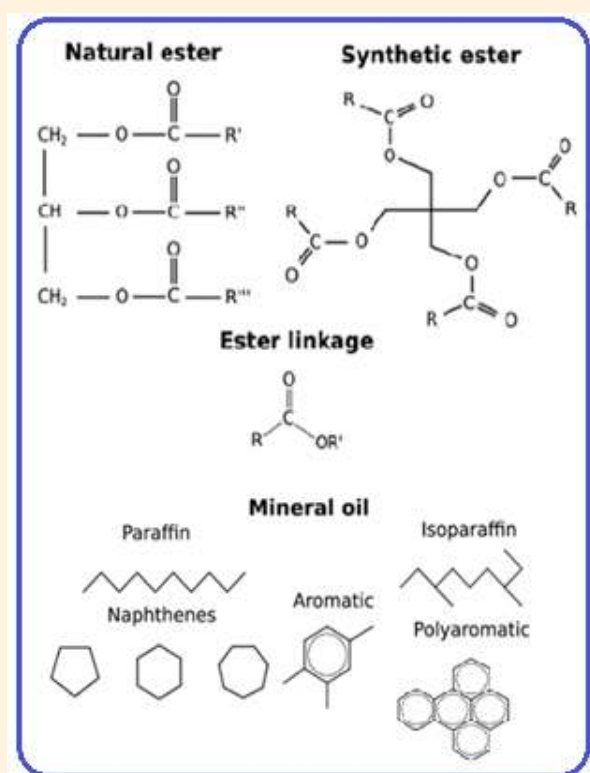

Figure 5. Molecular structure of MO & ester DFs
The hydrocarbon compounds in mineral oils are categorized as paraffinic, isoparaffinic, naphthenic, aromatic & polyaromatic which are non-polar contribute to flash point, pour point, viscosity & oxidation stability. The structure of natural esters is based on a glycerol backbone to which 3-naturally occurring fatty acids denoted as R'. Similarly in synthetic ester there is a 4-membered hydrocarbon block joined with 4-membered synthetic fatty acids as R'. In ester dielectric fluids the building blocks are polar in nature & categorized as Carbon (C), Oxygen (O) & Hydrocarbon chains represented as (R) & (R'), with single & double bonds (C=O) & (C=C) in their chains contributing to their higher flash point, fire point and biodegradability [1] as shown in fig.5.